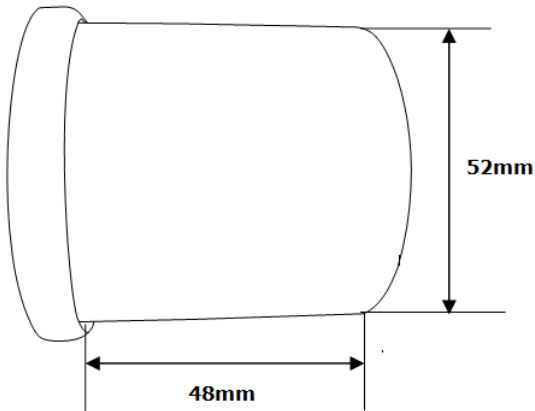

Figure 1.
3. Choose the best mounting position for your particular vehicle. Do not mount the gauge in a position that will impair visibility or interfere with driving. Before drilling into the mounting surface, look for any hidden wiring or other components that could be damaged by the drill bit as it passes through. Please see the enclosed diagram (**Figure 1.**) for reference.